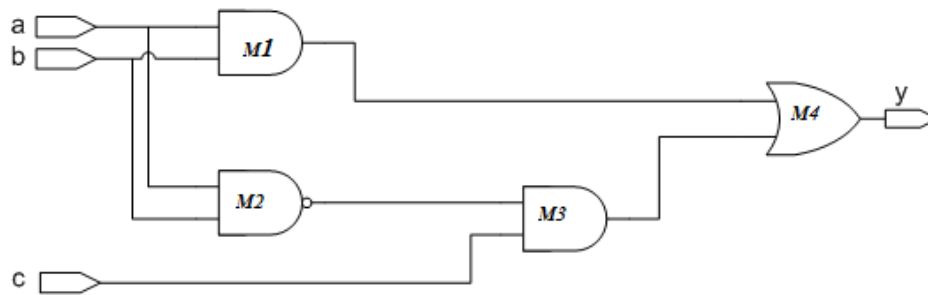

Figure 2 Combinational circuit
2. (15 pts) Develop a truth table for the combinational logic network in Figure 2
3. (15 pts) Construct a K-map for the logic network in Figure 2 **and** find the optimized/minimized Boolean equation from K-map in a sum of product (SOP) form.
4. (10 pts) Develop a structural model in Verilog HDL for the logic network in Fig. 2 using the gate-level primitives such as AND, NAND and OR gates.
5. (10 pts) Write a test bench fixture/program to verify the logic network in Fig. 2. Use the input test vectors (a, b, and c) to verify its output (y). The simulation output you obtain from this test bench program should produce the same output file as shown in Fig. 3.
6. (10 pts) The input waveforms a, b, and c are applied to the logic network in Fig.2. Draw a timing diagram at the output node (y) in proper relation to the inputs. Make sure that your answer for the output y is properly lined up with the input waveforms.